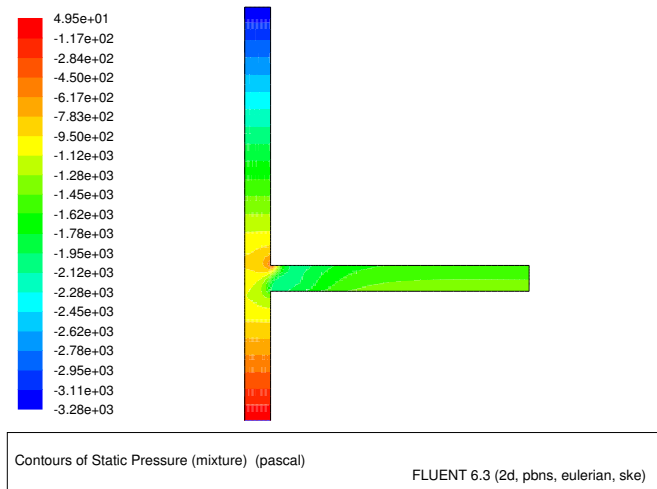

Figure 19.6: Contours of Static Pressure
1. Display the static pressure field in the tee for the mixture (Figure 19.6).